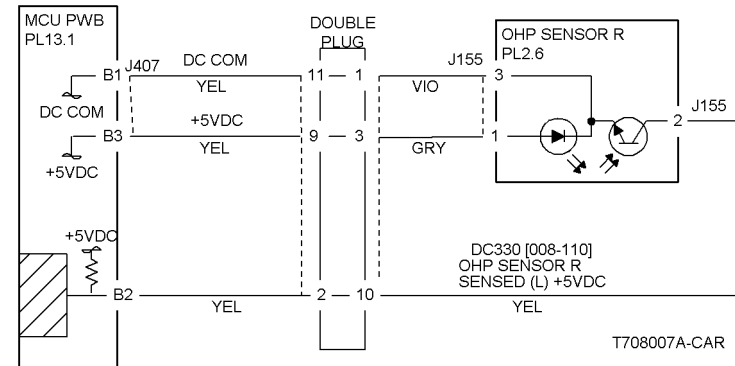

Figure 1 The OHP Sensor R
- Ensure that the connectors shown in the circuit diagram (Figure 1) are securely connected and that the wires are not damaged.